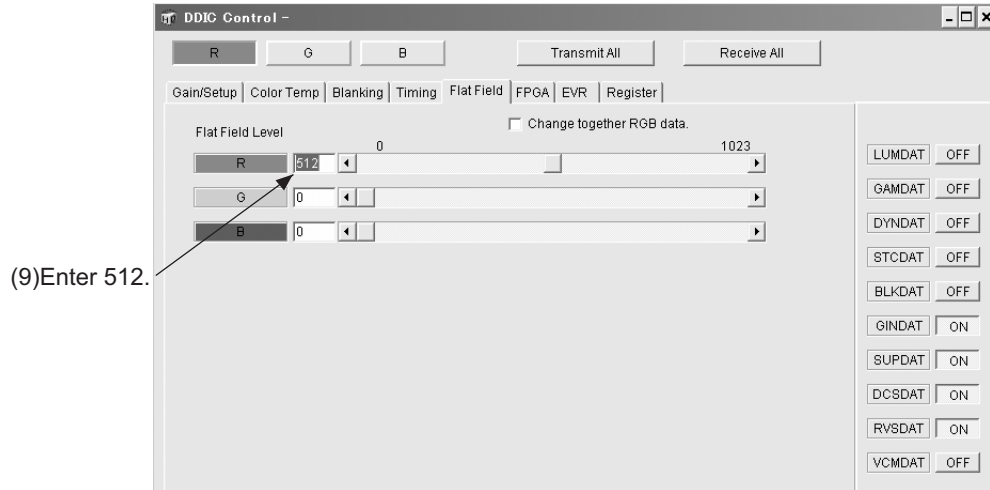

Fig.3
(9) On the [DDIC Control][Flat Field] tag, set the Flat Field Level value for a color to be adjusted to 512 and the rest to 0, respectively. Refer to Fig.3.